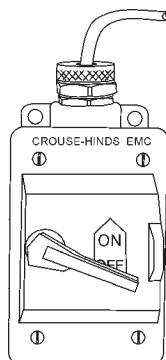

Figure 10. Power ON/OFF Switch (OFF)
Connecting the Power (Figure 10)
1. Place the power **ON/OFF** switch (Figure 10) in the **OFF** position (down).